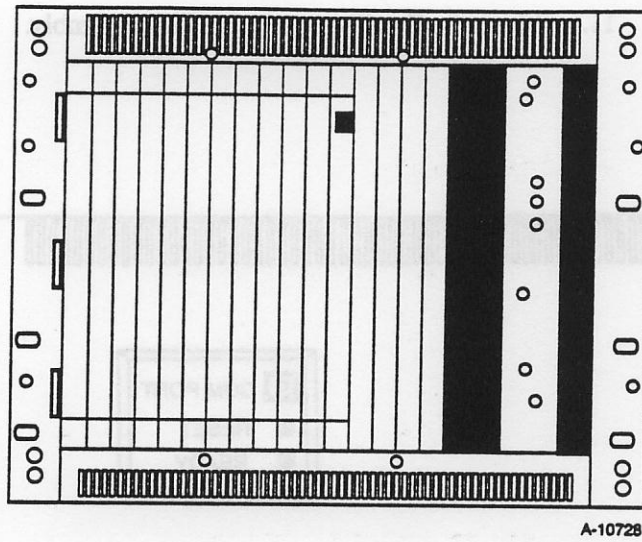

Figure 7-39. DAC Board Assembly
10. While supporting the DAC, depress the release tray slider locks. Slide the DAC assembly all the way out of the chassis. Refer to Figure 7-39.